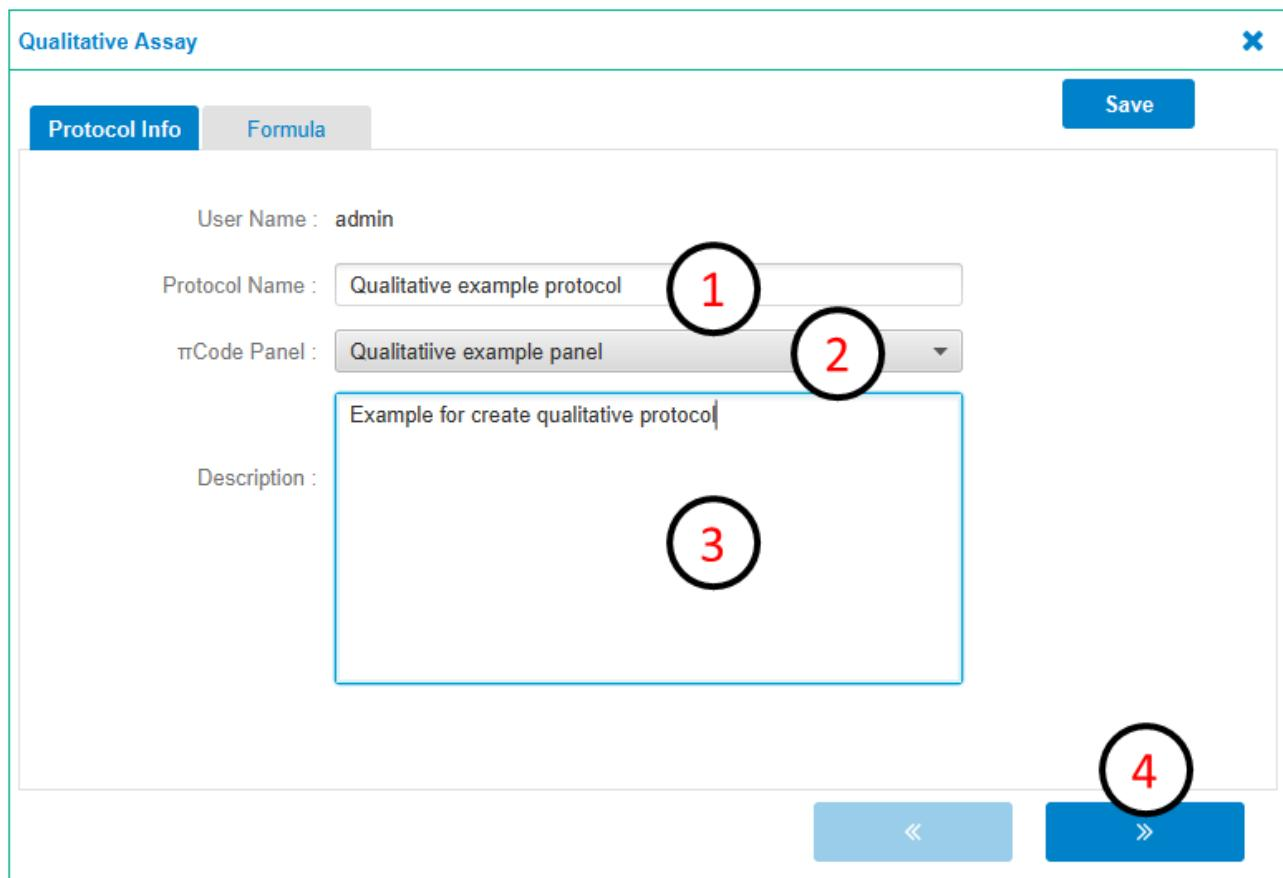

Fig. 40. Protocol – Configuration tab – New Qualitative Assay
Step 1. Enter a unique “Protocol Name” (Fig. 40).